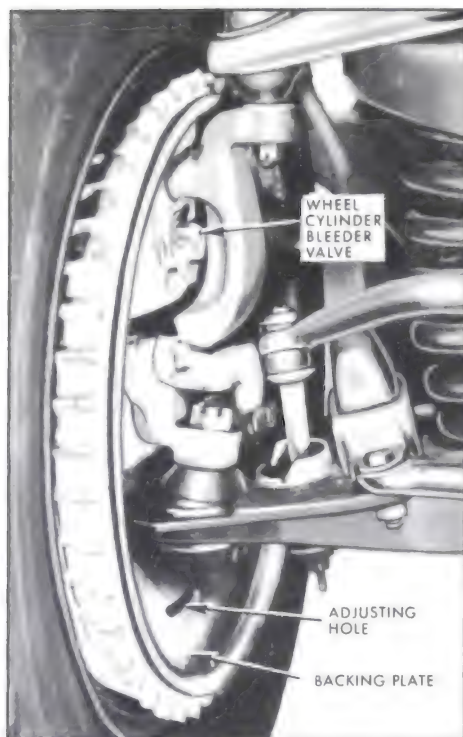

Figure 9-10—Right Wheel and Brake Assembly
2. Install Wrench J-21472 on bleeder valve. Slip a brake bleeder tube over ball of wheel cylinder bleeder valve. Place lower end of bleeder tube in a clean glass jar. Unscrew bleeder valve 3/4 of a turn. See Figure 9-10.
3. Install Wrench J-21472 on bleeder valve. Slip a brake bleeder tube over ball of wheel cylinder bleeder valve. Place lower end of bleeder tube in a clean glass jar. Unscrew bleeder valve 3/4 of a turn. See Figure 9-10.